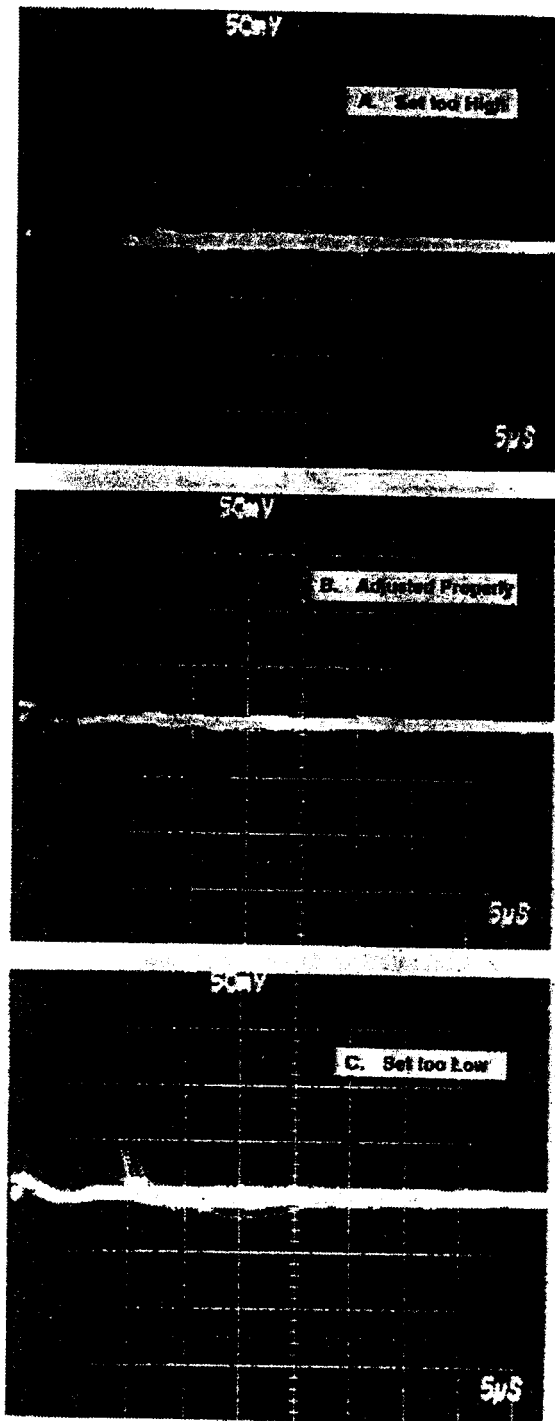

Fig. 4.5. BLR Threshold Variable Control Settings.
- Reduce the control setting until the baseline discriminator begins to trigger on noise; this corresponds to about 200 counts/s from the Busy output. Adjust the trigger level according to the information in Fig. 4.5.